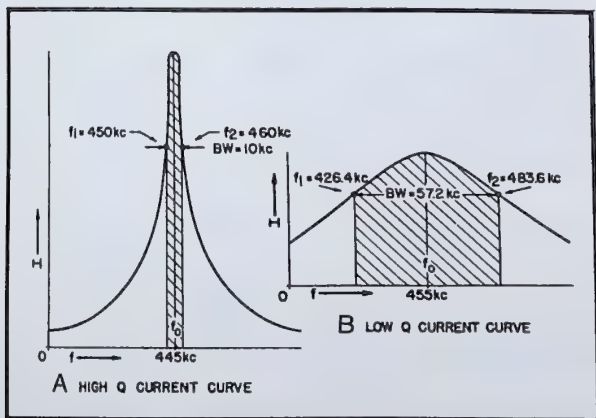

Fig. 8-7. High-Q (A) and low-Q (B) current curves showing bandwidth.
lower cutoff frequency. In Fig. 8-7 these points are labeled  $f_1$  and  $f_2$ . The range of frequencies between these two points comprises the bandwidth. Figure 8-7 illustrates the bandwidths for high- and low-Q series resonant circuits. The bandwidths (B) may be determined by the equation  $B = f_0/Q$ , or center frequency divided by circuit Q. Bandwidth may also be determined by subtracting the lower cutoff frequency from the upper cutoff frequency, or  $B = f_2 - f_1$ .